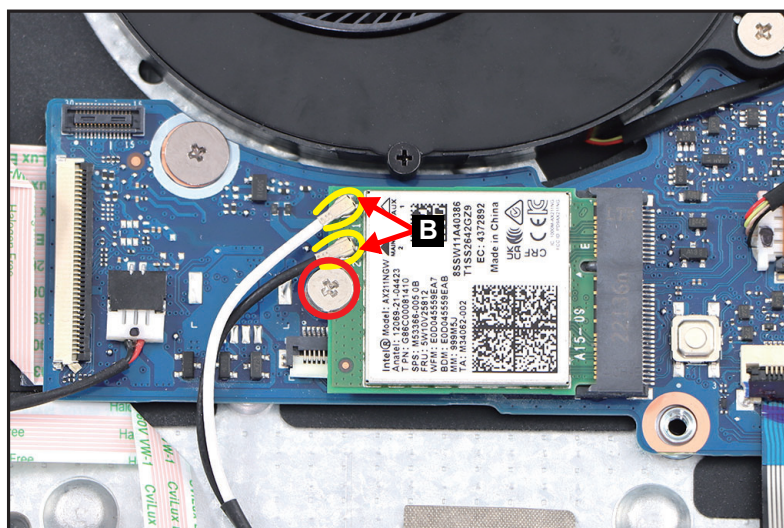

Figure 1-14. WLAN Module Removal
2. Disconnect the WLAN antenna cables from the WLAN module connectors (B) (Figure 1-14).
3. Remove one (1) screw securing the WLAN module in place (Figure 1-14).